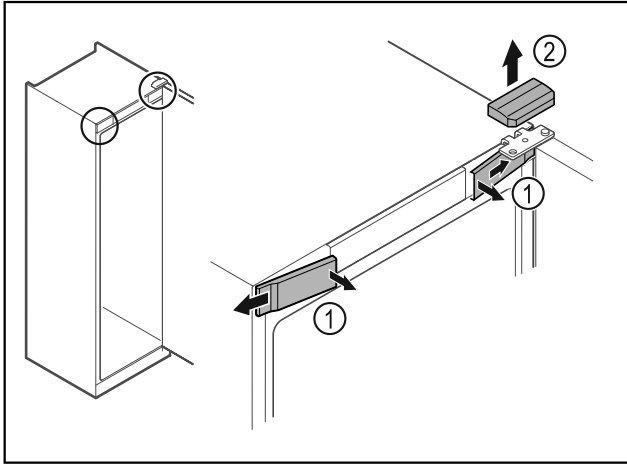

Fig. 5 \*
► Unlatch the front covers Fig. 5 (1) on the inside and remove them sideways.\*
► Lift off the upper cover Fig. 5 (2).\*